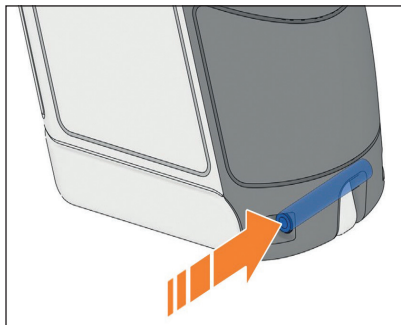

Figure 32 – Drive out clamping sleeve for backstrap
2. Extract clamping sleeve for backstrap using pin punch (Fig. 32).